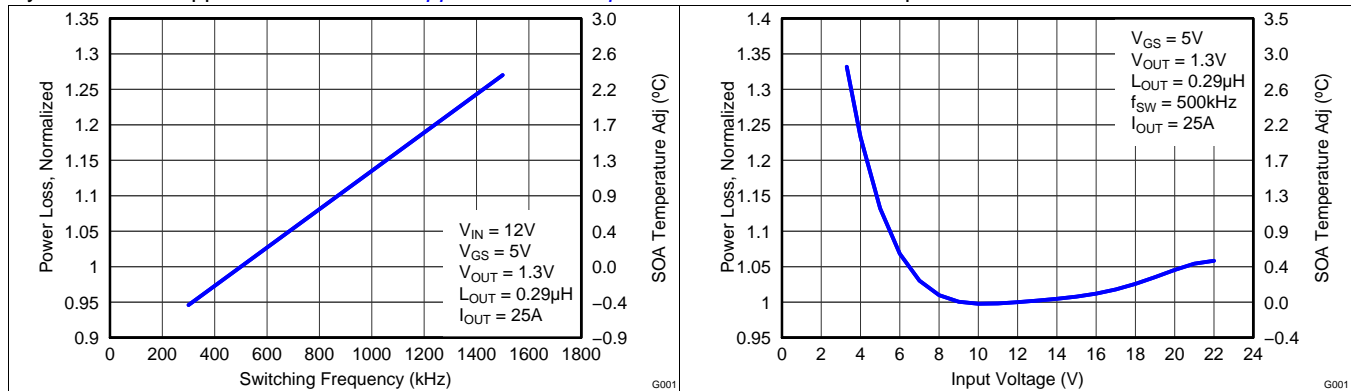

Figure 5. Normalized Power Loss vs Switching Frequency
- Normalized Power Loss for switching frequency ≈ 1.08 (Figure 5)
- SOA adjustment for switching frequency $\approx 0.7^\circ\text{C}$ (Figure 5)